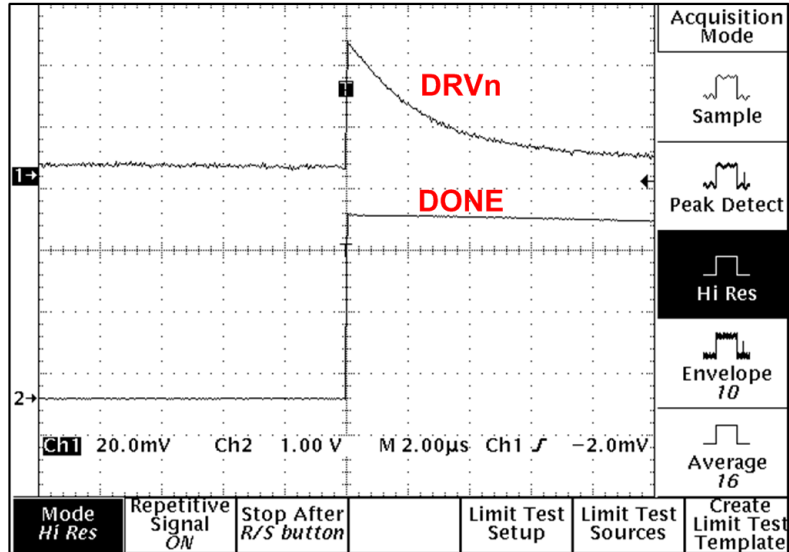

Figure 4. DONE and DRVn Signal Behavior in Timer Mode
4. Connect the EVM, a power supply and a digital multi-meter (DMM) as shown in Figure 4. The output of the power supply should be OFF. The DMM should support 6 digits of resolution.